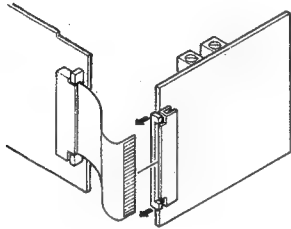

Fig. 1-1
- Take care of the connecting side of the card fit cable. Insert the card fit cable so as to contact the copper leaf on its edge to the connector's conductive surface as shown in Fig. 1-1.